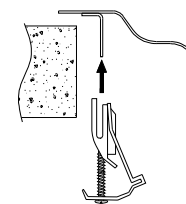

Fig 2.
9. Push the fixing clips perpendicular to the clip rail or lugs onto the underside of the sink rim as shown (fig. 2).